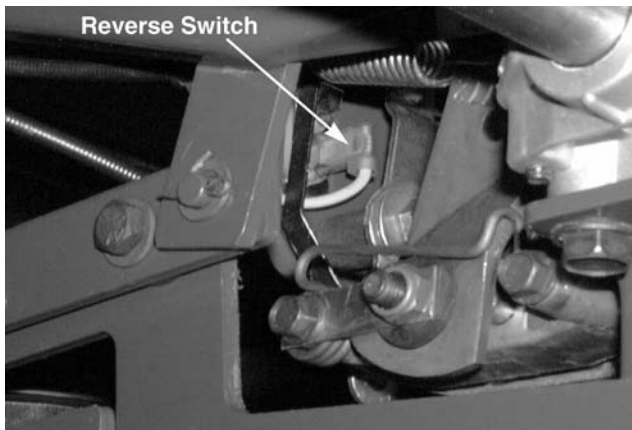

Figure 8-88.
20. Locate the reverse switch and disconnect the yellow/black wire and connector. See Figure 8-88.